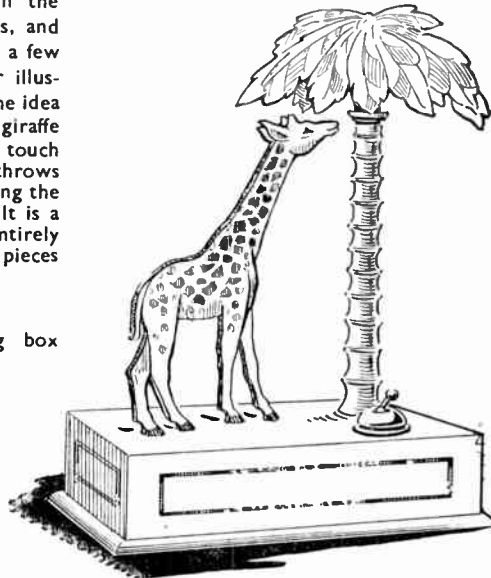

Fig. 1—The completed lamp with switch
**H**ERE is another novelty in the way of electric table lamps, and one that can be made from a few pieces of wood and metal. Our illustration, Fig. 1, shows at a glance the idea of the lamp. A docile looking giraffe stands beneath a palm tree. At a touch of the switch below, it lights and throws a mellow green light around, making the animal stand out in bold relief. It is a simple piece of work, almost entirely made with the fretsaw from some pieces of  $\frac{1}{2}$  in. wood.
In addition to this shaping, the 'tree' may be realistically carved to give the appearance of a palm, as depicted in Fig. 1. (E) and (F) are given full-size. This grooving work can be done with a half-round rasp and file and finished smooth with glasspaper. When the 'tree' trunk is completed, glue the tenons into the top of the box and allow to harden before proceeding further with the work.